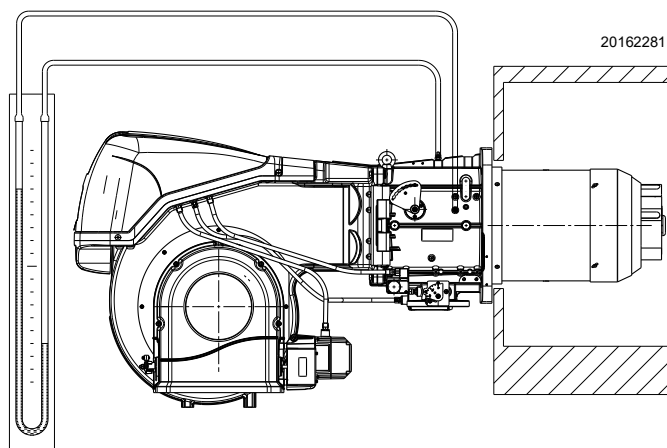

Fig. 24
- Fit a U-type pressure gauge or a differential pressure gauge (Fig. 24), with socket (+) on the gas pressure of the pipe coupling and (-) in the combustion chamber. The manometer readings are used to calculate MAX burner output using the .